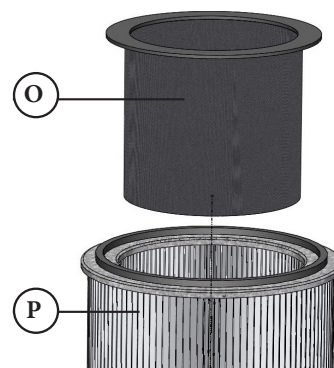

FIG. 11b
Insert the Drop-In Silencer (O) into the top of the larger Filter as shown in [FIG. 11b].